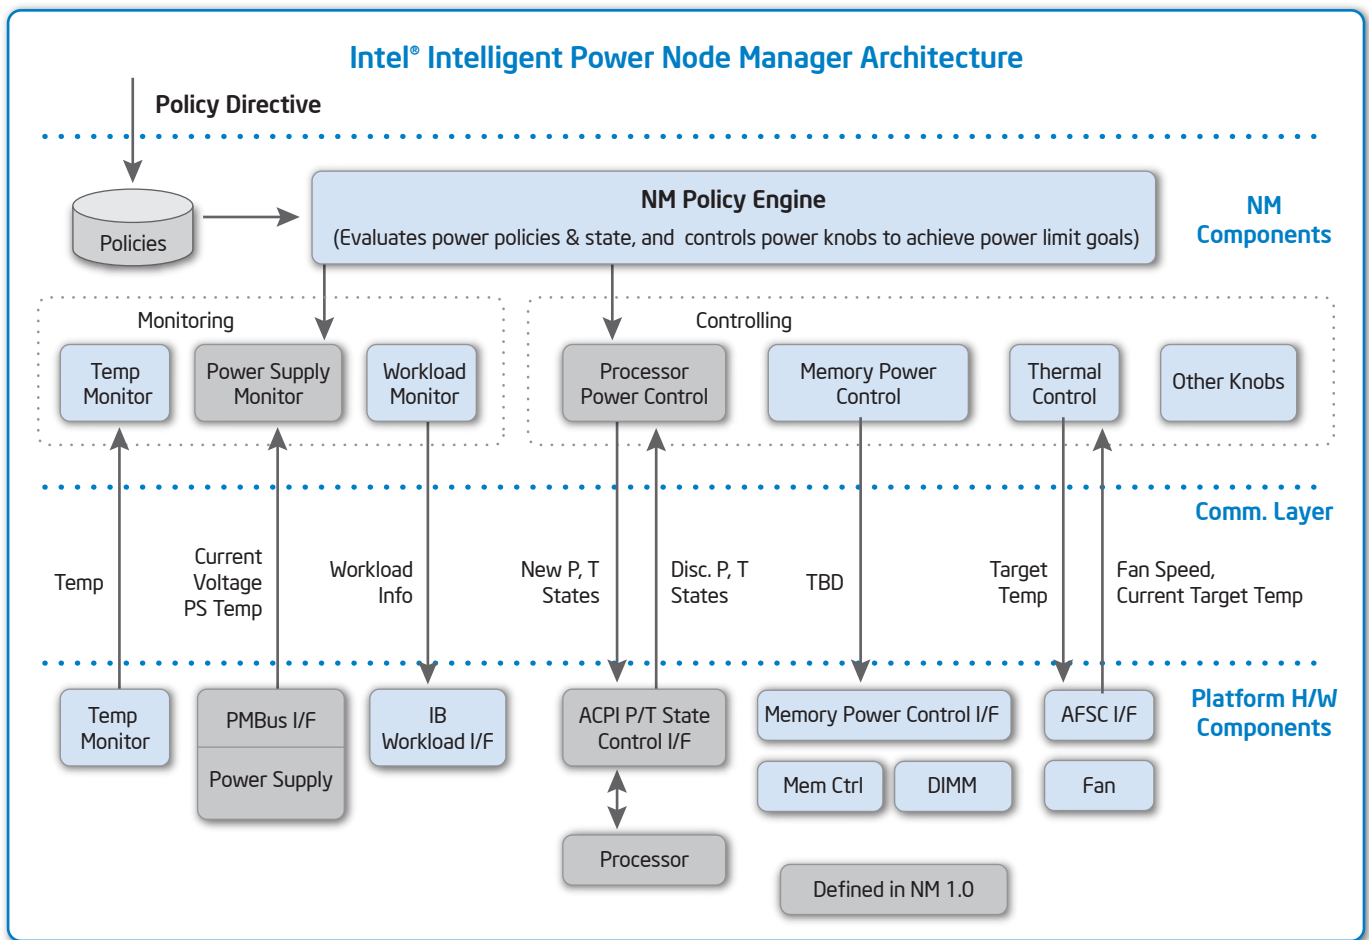

Figure 5. Node Manager architecture and its interactions with system components.
Figure 5 shows the NM architecture. The NM components can be implemented in many alternative ways. In Intel-developed server boards the components are implemented as part of the Manageability Engine (ME) of the Intel® 5500 series chipset, and communicates with the external management software via the Base-board Management Controller (BMC).